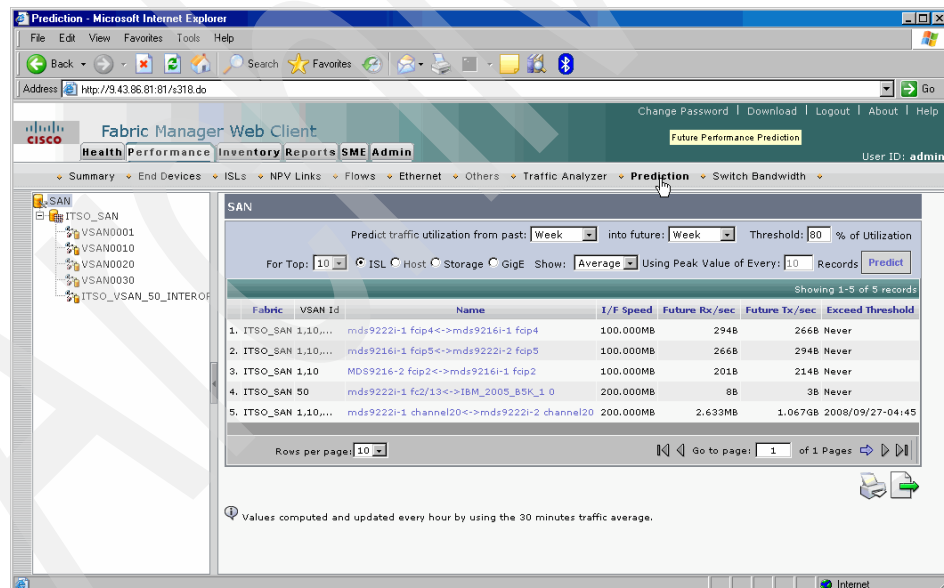

Figure 4-50 Traffic prediction for ISLs in a one week period of time
- ▶ Traffic predictions (Figure 4-50 on page 125)